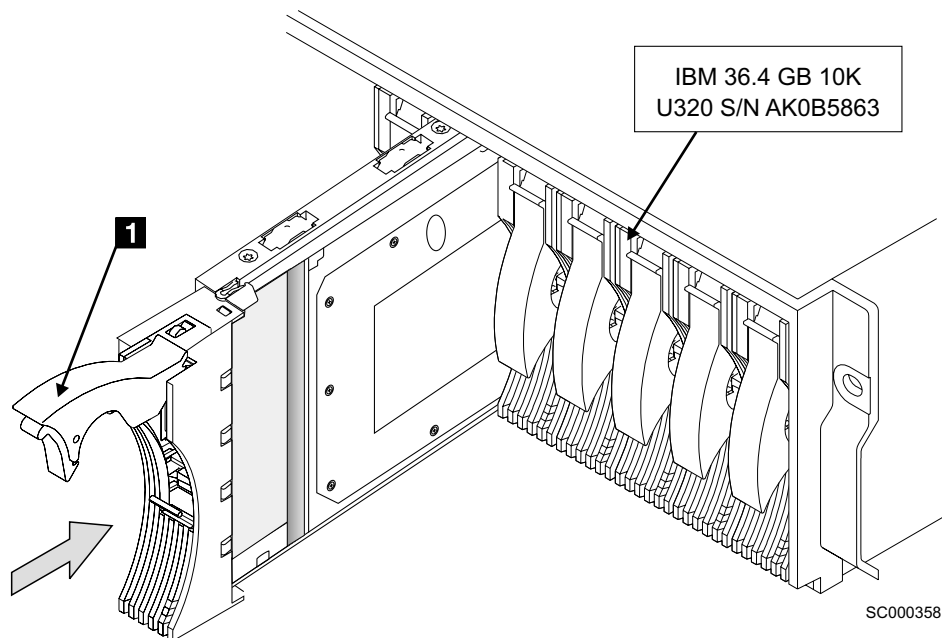

Figure 28. Reinstalling a 2104 Model DS4 disk drive module
2. Ensure that the handle **1** is fully open on the disk drive module that you are going to install. See Figure 28.